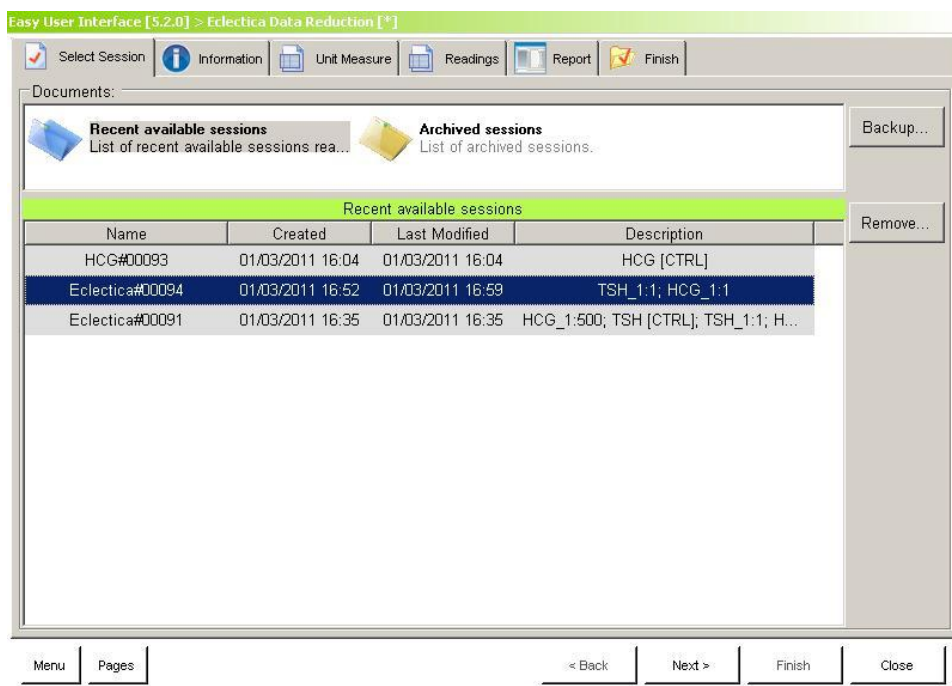

Fig. 7. 86
- Select *Recent Available sessions option* (Fig. 7. 86) and select a previously programmed worklist.